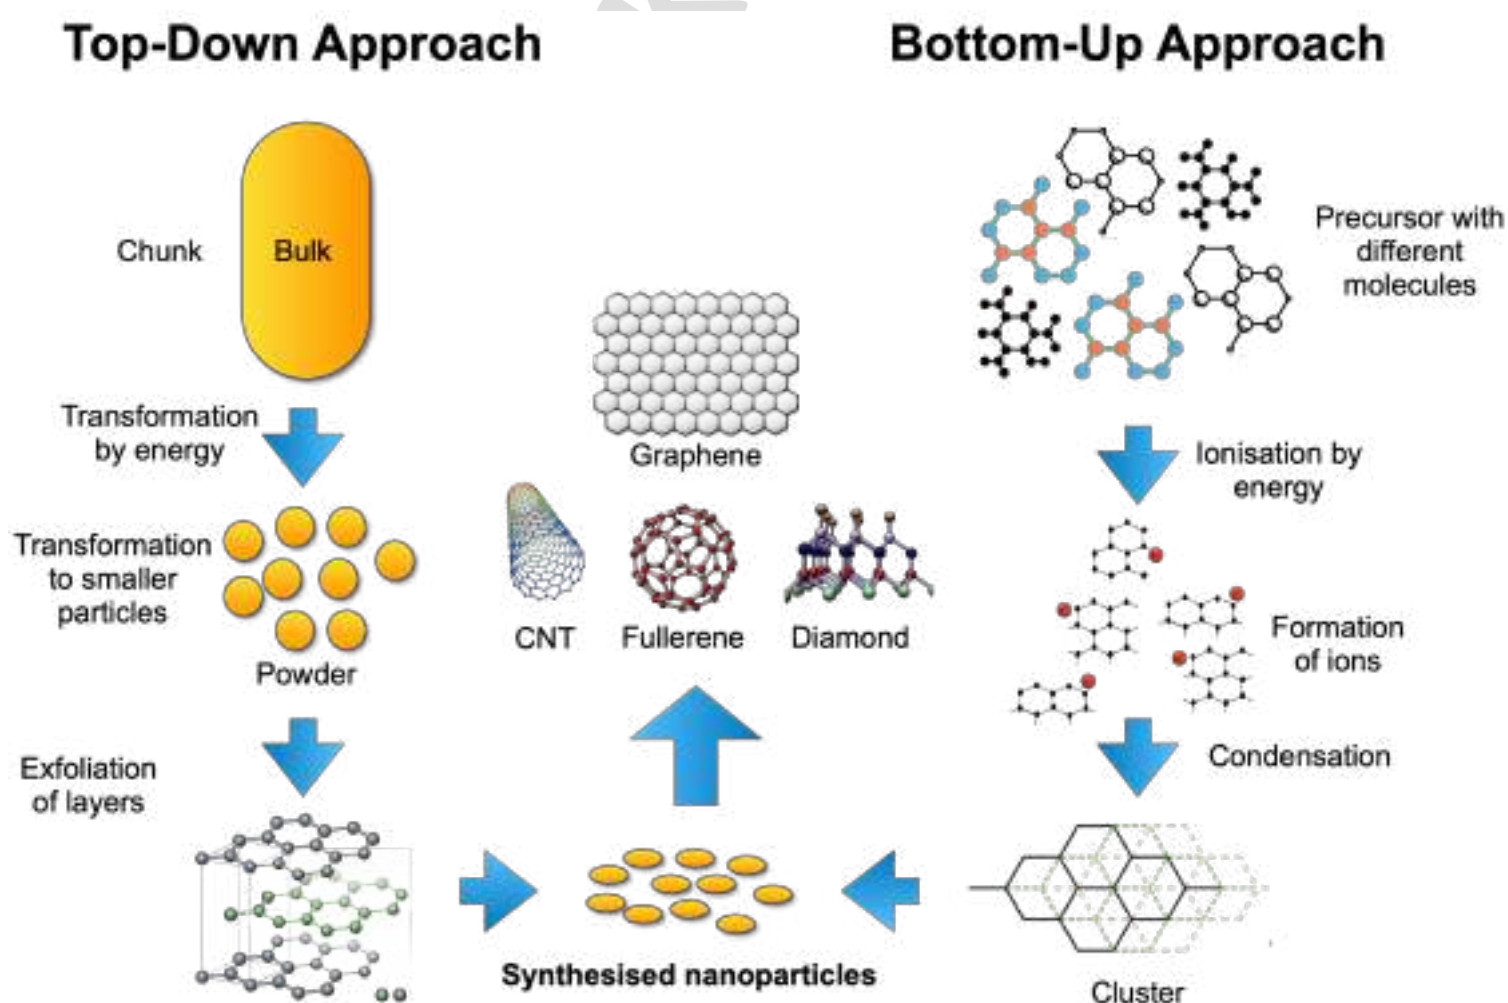

Fig. 22: Synthesis of carbon-based nanomaterials
- In a similar way Bottom-up and the top-down approaches in synthesis of carbon-based nanomaterials is shown in Fig. 22 as an example.